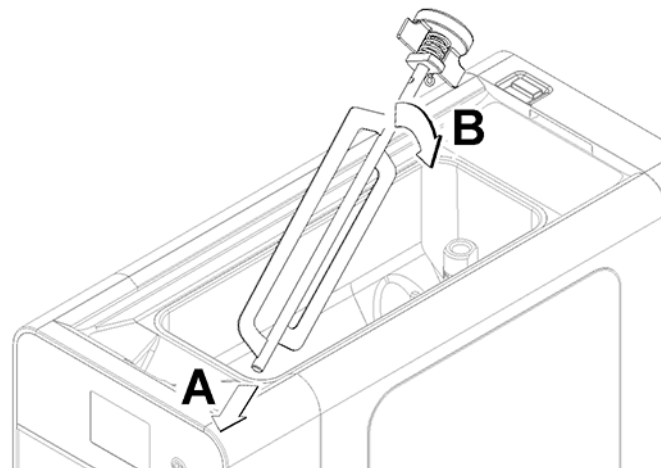

figure 29
- 7 Fit the mixer together taking care to insert the ends in the grooves in the upper basin.(see figure 29)